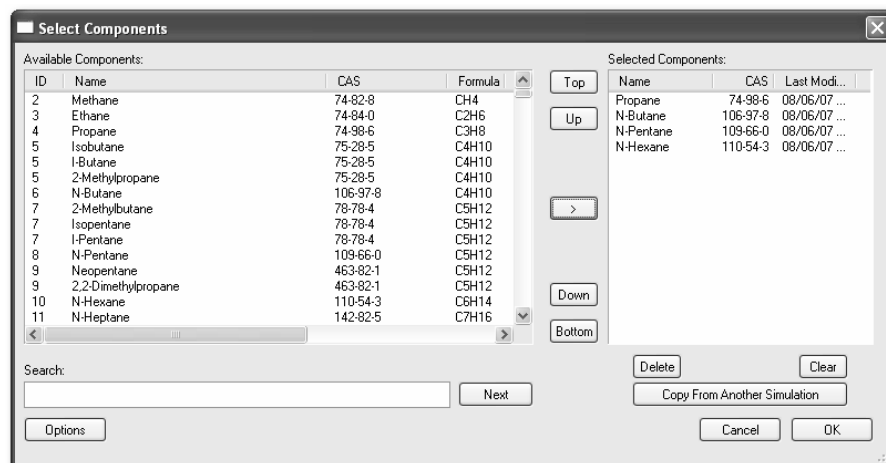

Figure 11-38: The completed Select Components dialog box
2. Click the right arrow button, located to the right of the *Available Components* area, to add all of the selected components to your simulation. The Select Components dialog box should now look like Figure 11-38.